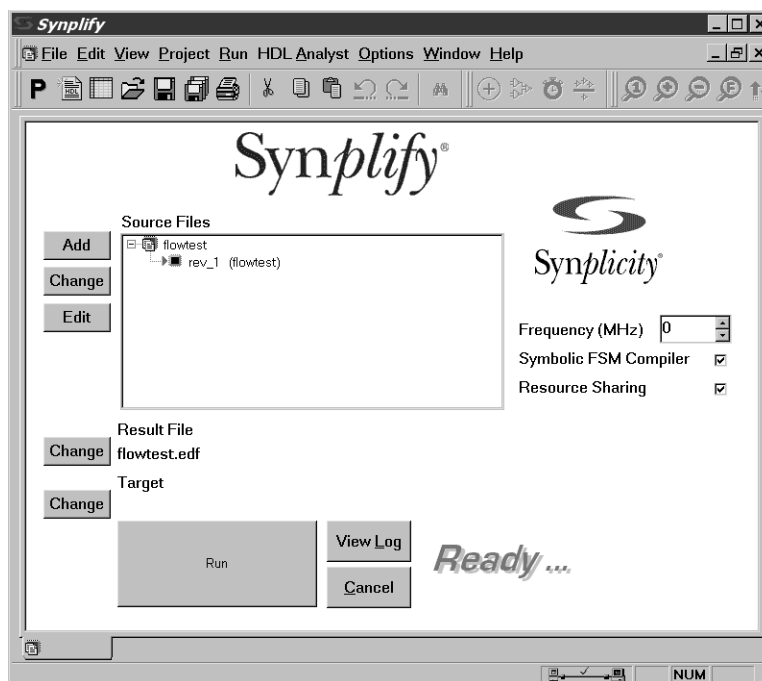

Figure 5-2: Main Project Window
4. Click Add to add source files to the new project (Figure 5-2). The first file (used by any design that instantiates Xilinx primitives) is located in: